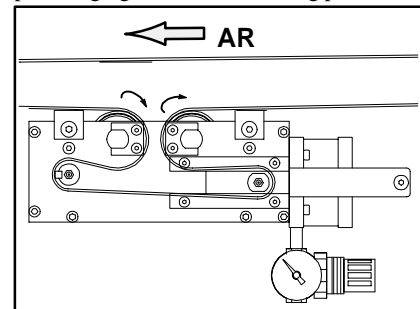

Figure 18: Belt Flow Diagram
Refer to the Belt Flow Diagram of Figure 18, the direction of belt travel (AR) and the preceding figures for the following procedures.